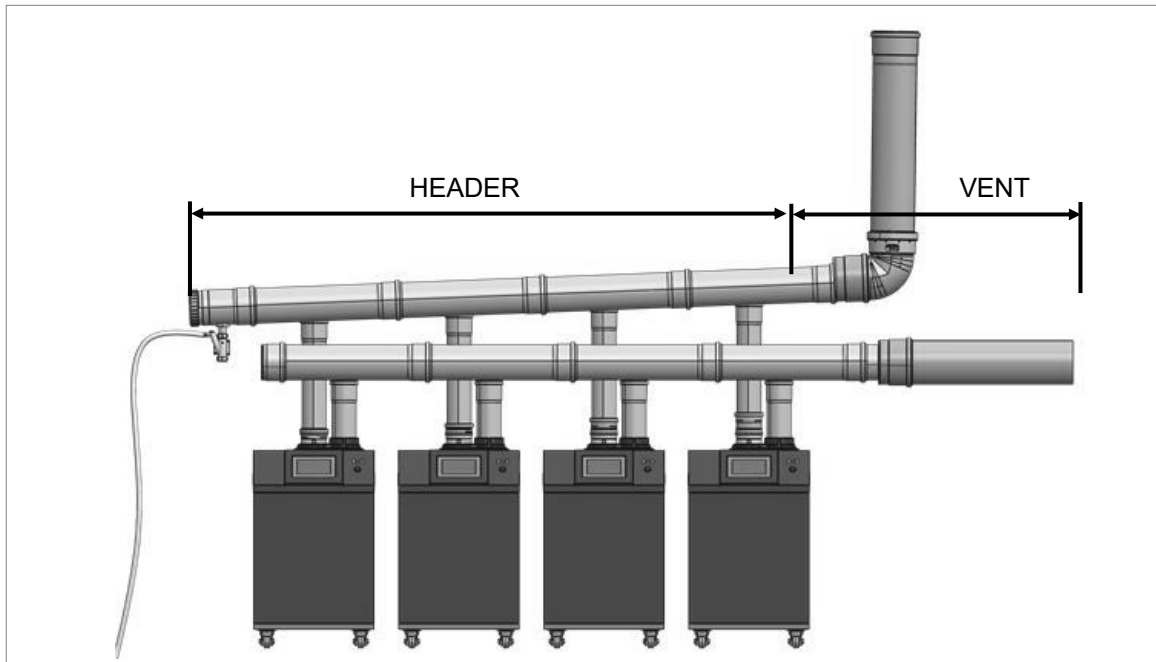

Fig 12. Header and Vent Length
- Header is the main vent pipe into which several vents connect (Fig 12).
- Vent Length is the distance from the end of the header to the vent termination (Fig 12).